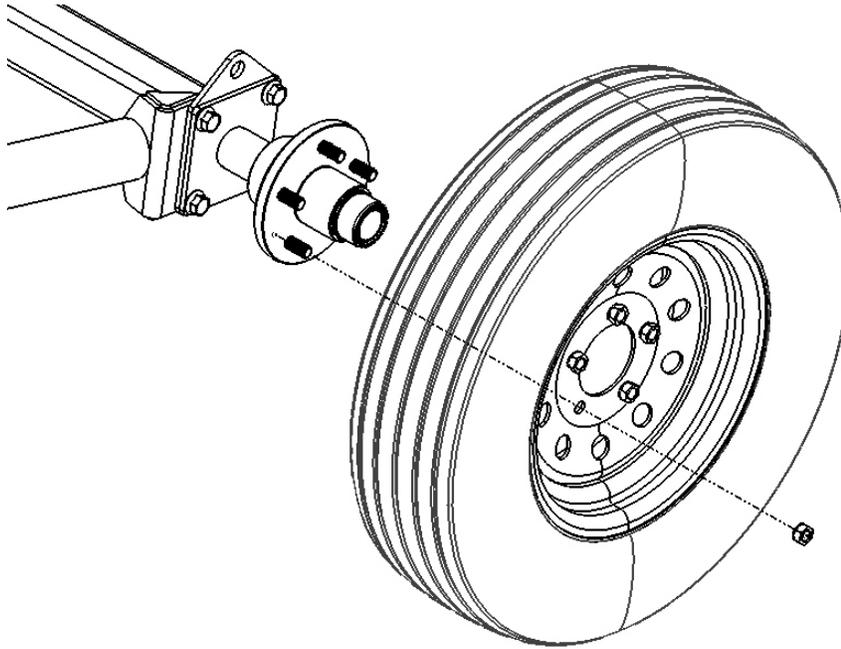

Fig. 9.1
Next, lift the carriage arms up to the carriage mount bracket welded onto the first tube. Attach the carriage arms as shown in fig. 9.1 using (2) 3/4" x 1-1/2" hex bolt & top lock nut.